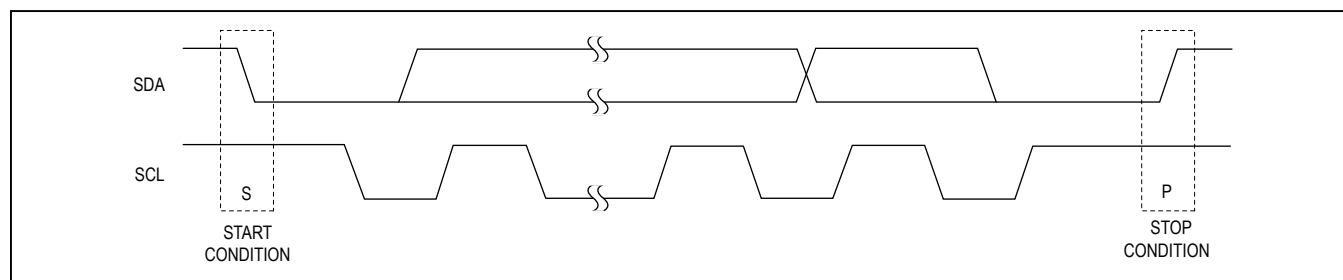

Figure 24. START and STOP Conditions
Both SCL and SDA remain high when the interface is not busy. A master signals the beginning of a transmission with a START (S) condition by transitioning SDA from high to low while SCL is high (Figure 24). When the master has finished communicating with the slave, it issues a STOP (P) condition by transitioning SDA from low to high while SCL is high. The bus is then free for another transmission.